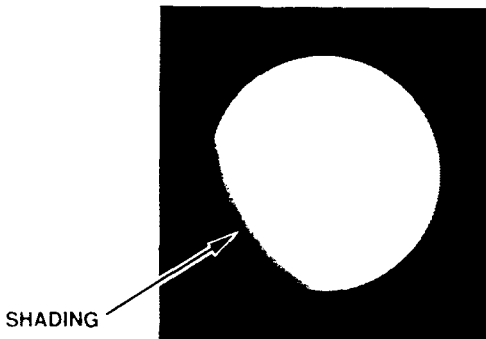

Figure 2-3. Shading.
a. Shading. Each monocular should present a perfect circle. If shading is present, you will not see a fully circular image (fig. 2-3). Shading always begins on the edge and moves inward. Do not use if shading is present. Return the NVG to the maintainer.